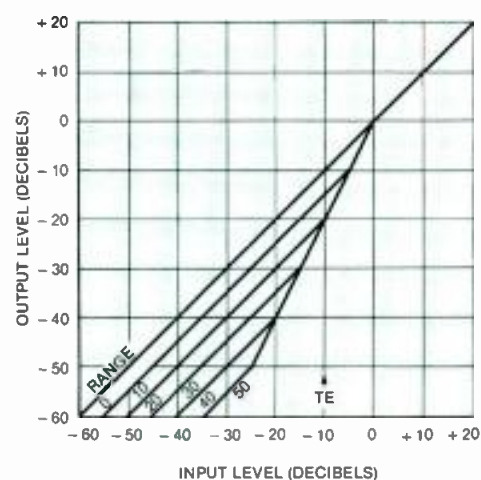

Figure 2. The effect of the range control on the transfer function is shown above. The slope is set to 1:2.
- A *range* control, sometimes called depth control, is provided on most gates and expanders. This adjustment presets the maximum amount of processor attenuation (reference threshold). Therefore, if the range control is set at 40dB, unwanted noise will be reduced by no more than a nominal 40dB below the threshold setting. (See Figure 2.)